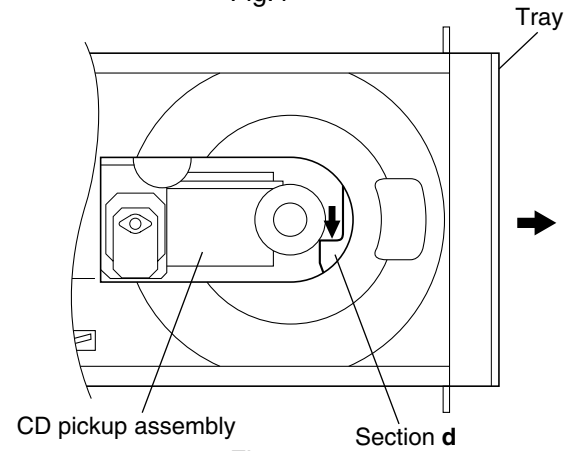

Fig.5
2. Push the section **d** of the elevator in the direction of the arrow and lower the CD pickup assembly. (See Fig.5.)
3. Pull out the tray. (See Fig.5.)